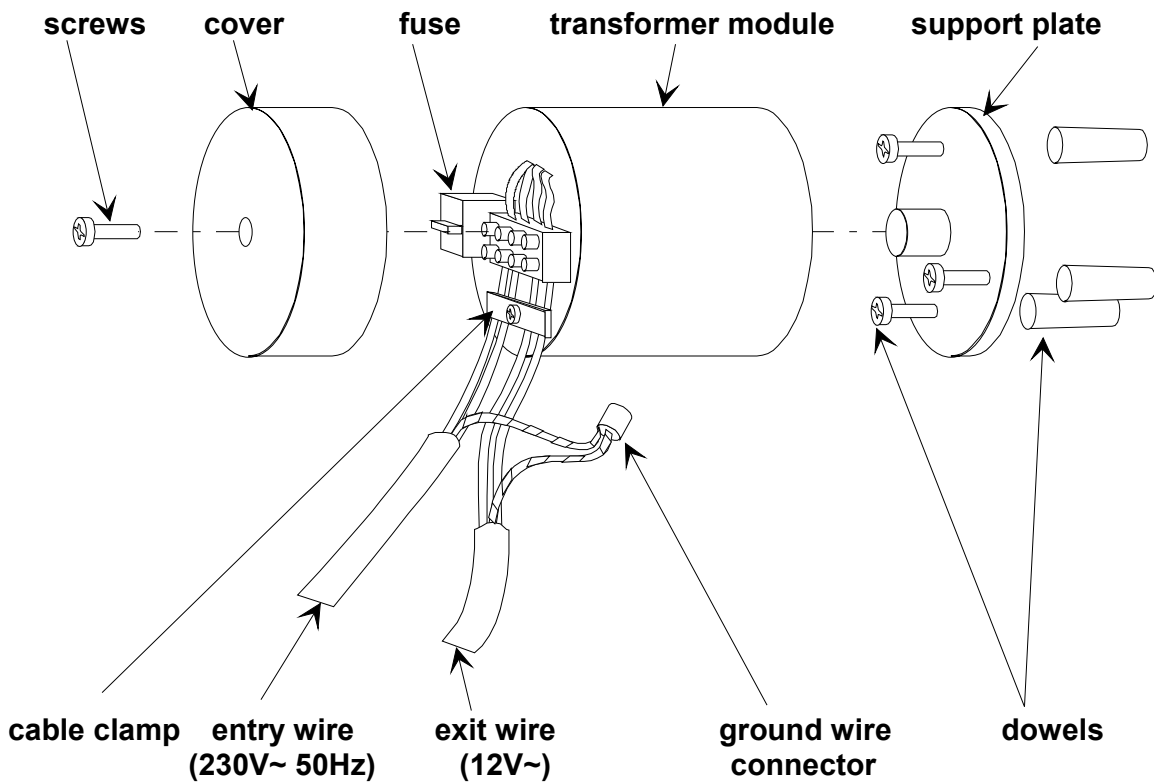

Figure 3. TRN-01 Transformer
2. Attach the entry wire ( $230V_{AC}$ ) to the entry connector (next to the fuse) and the output wire ( $12V_{AC}$ ) to the other connector (see Figure 3). The maximum diameter allowed is  $2.5mm^2$  for both entry wires (230V) and output wires (12V).